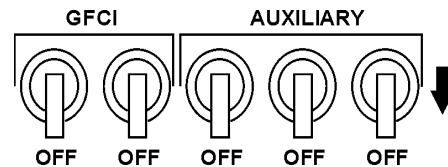

Figure 26. GFCI/AUX. Circuit Breakers (OFF)
2. Place **GFCI** and **AUX.** circuit breakers (Figure 26) in the **OFF** position.